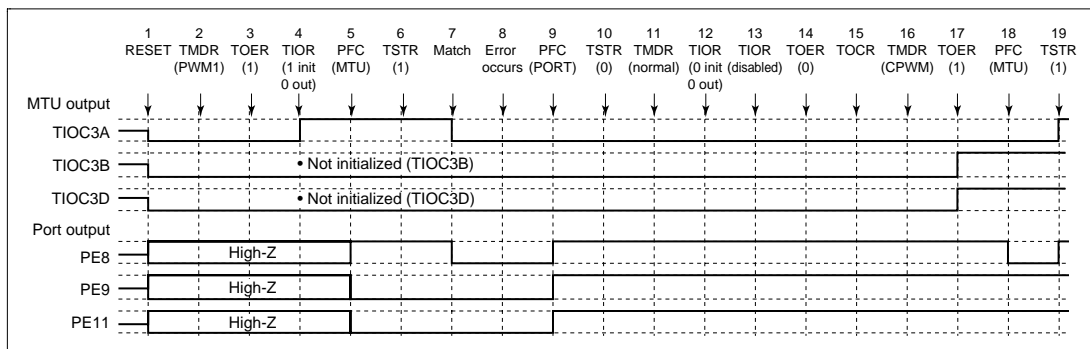

Figure 12.106 Error Occurrence in PWM Mode 1, Recovery in Complementary PWM Mode
(11) Operation when Error Occurs during PWM Mode 1 Operation, and Operation is Restarted in Complementary PWM Mode: Figure 12.106 shows an explanatory diagram of the case where an error occurs in PWM mode 1 and operation is restarted in complementary PWM mode after re-setting.
1 to 14 are the same as in figure 12.106.